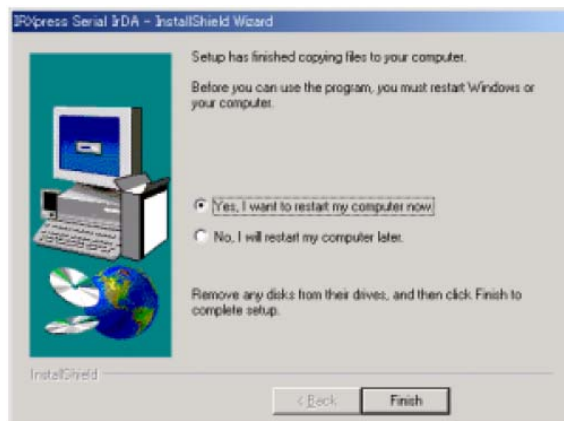

Figure 5.25
3. Choose **Yes, I want to restart my computer now** radio button, and then click **Finish** button (see Figure 5.25). Reboot your PC to set the IrXpress driver enabled.